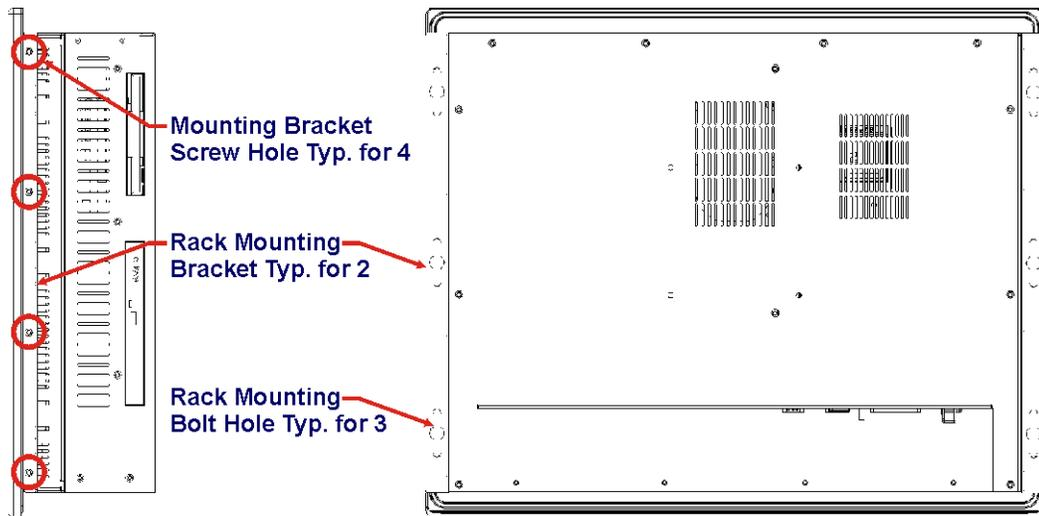

Figure 3-17: Rack Mounting
Step 1: Secure the rack mounting bracket to two sides of the monitor using the supplied retention screws (**Figure 3-17**). Each bracket requires four screws.
Step 2: Secure the rack mounting bracket to the rack by inserting and tightening the supplied mounting nuts and bolts (**Figure 3-17**). Each bracket requires three nuts and bolts for installation.